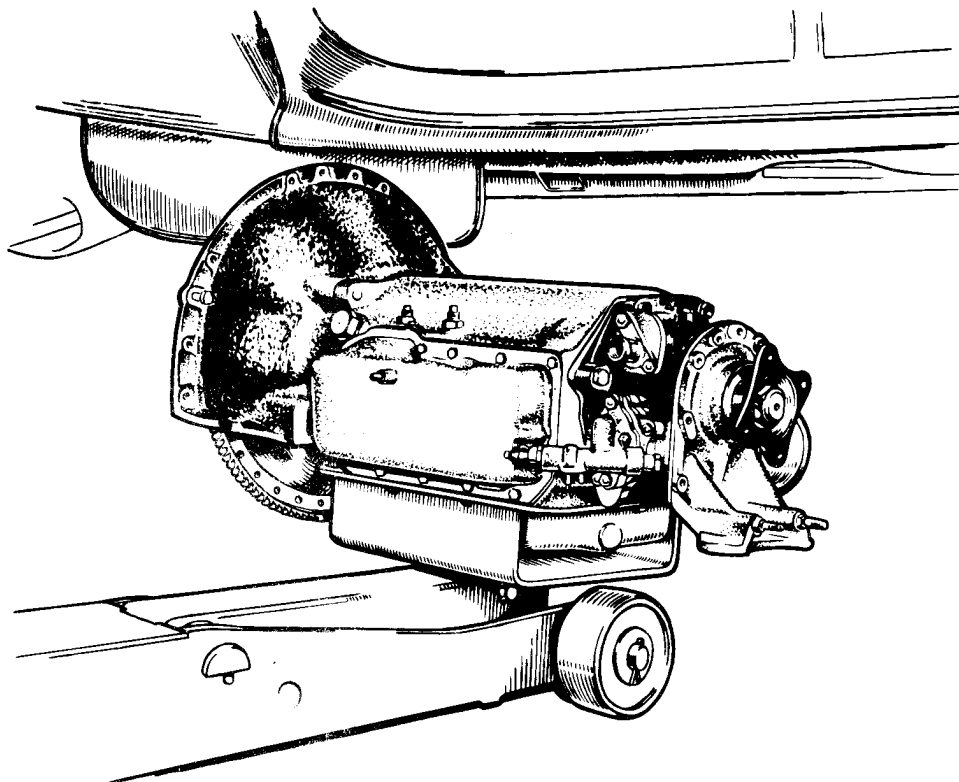

FIG.4 REMOVING GEARBOX FROM UNDERNEATH
21. With the special support tray fitted, slide the jack under the gearbox sump (Fig.4). Raise the jack sufficiently to take the weight of the gearbox.